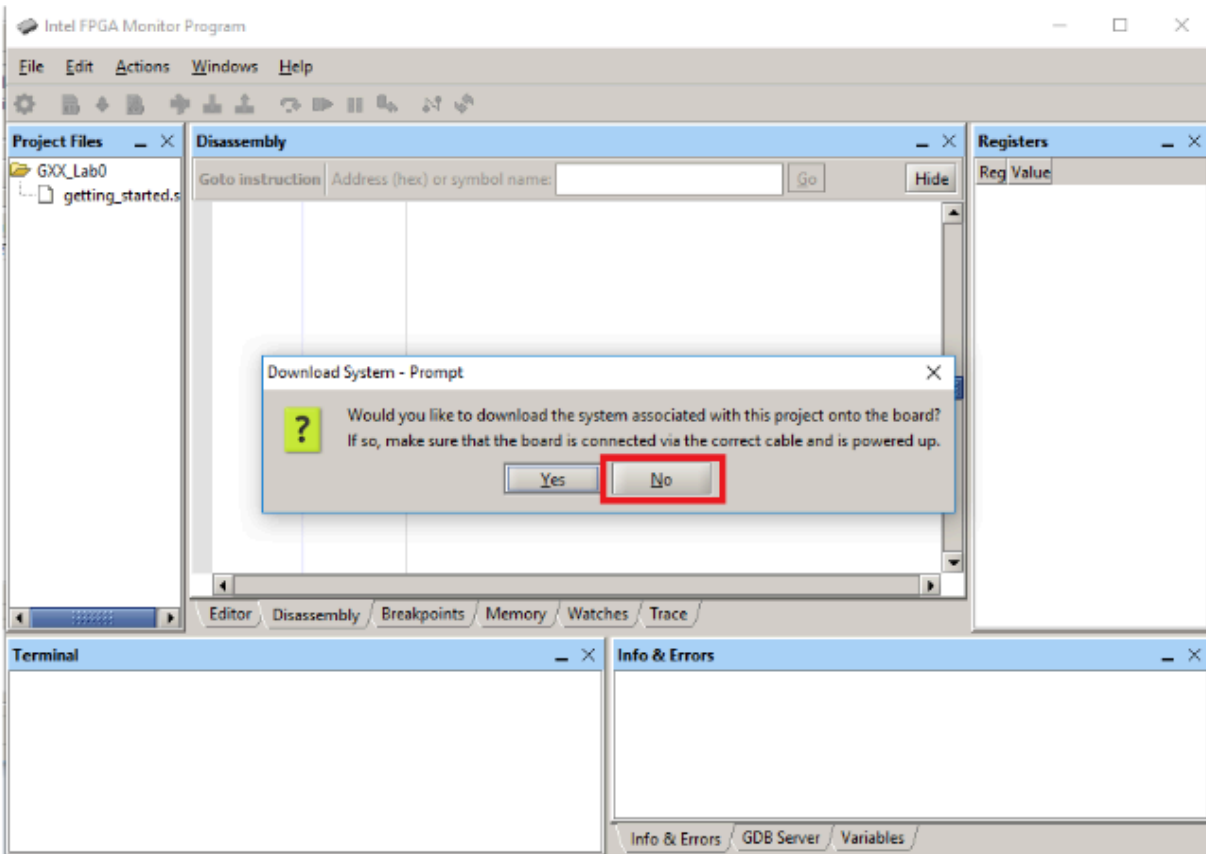

Figure 19: Running the demo program - Step 8
8. A dialogue box should now pop up, asking whether you would like to download the system onto the board. Since we have already flashed the SOF file onto the board, this is not necessary, so click “No”, Fig. 19.